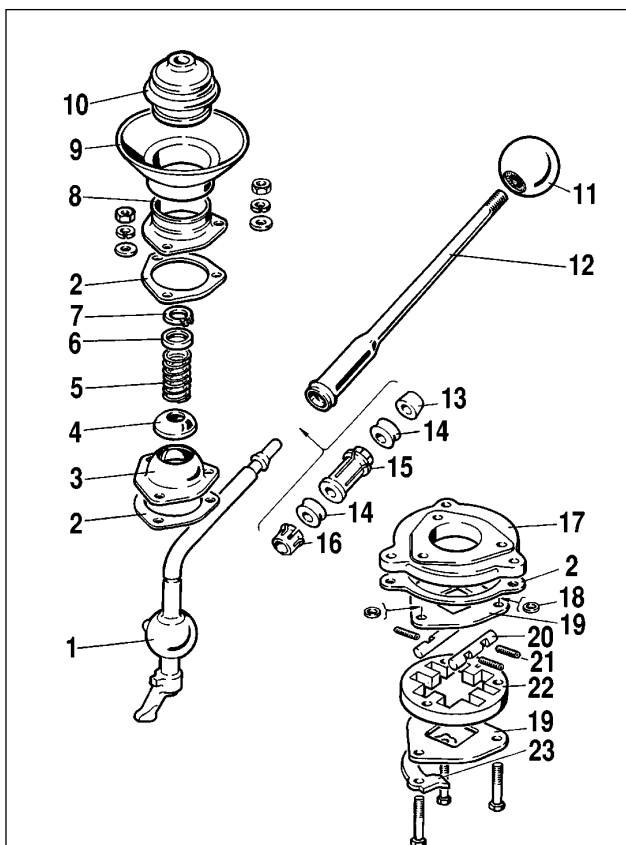

Fig. 3-33. Gear change mechanism and lever:
- take off rubber boot 10 (fig. 3-33), thrust ring 6 and circlip 7, spring 5 and cap 4 from the gearshift lever;